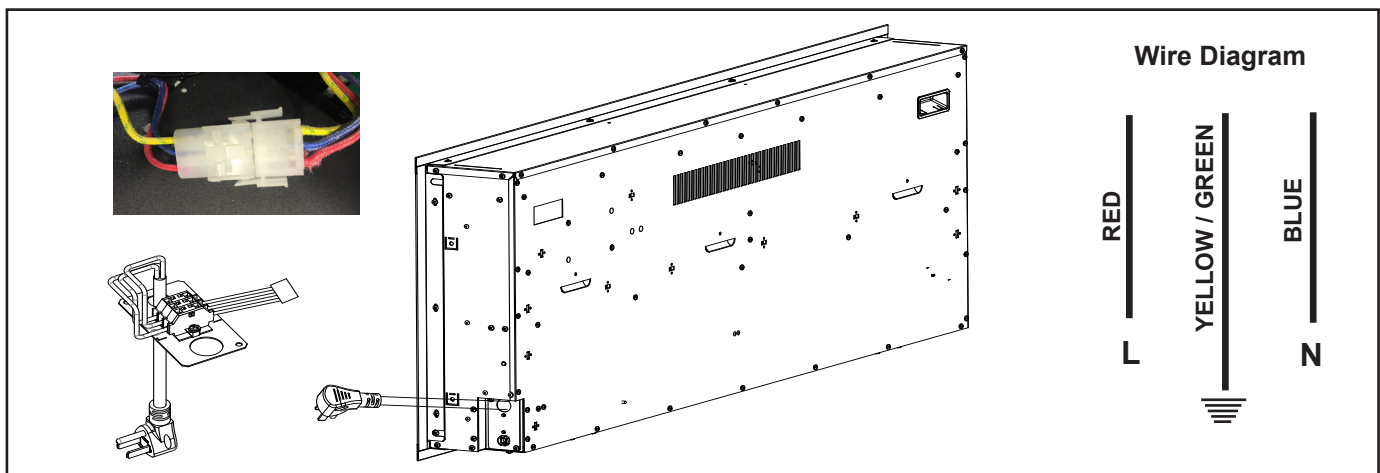

Figure 4.10 Optional Power Cord Assembly
3. Connect the three conductor wire connector to the connector on the block supplied with the power cord kit. See Figure 4.10.